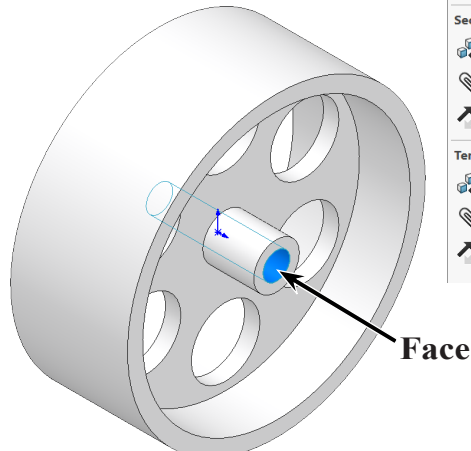

Fig. 21
Step 1. Click the **cylindrical face of axle hole** to select it, **Fig. 21**.